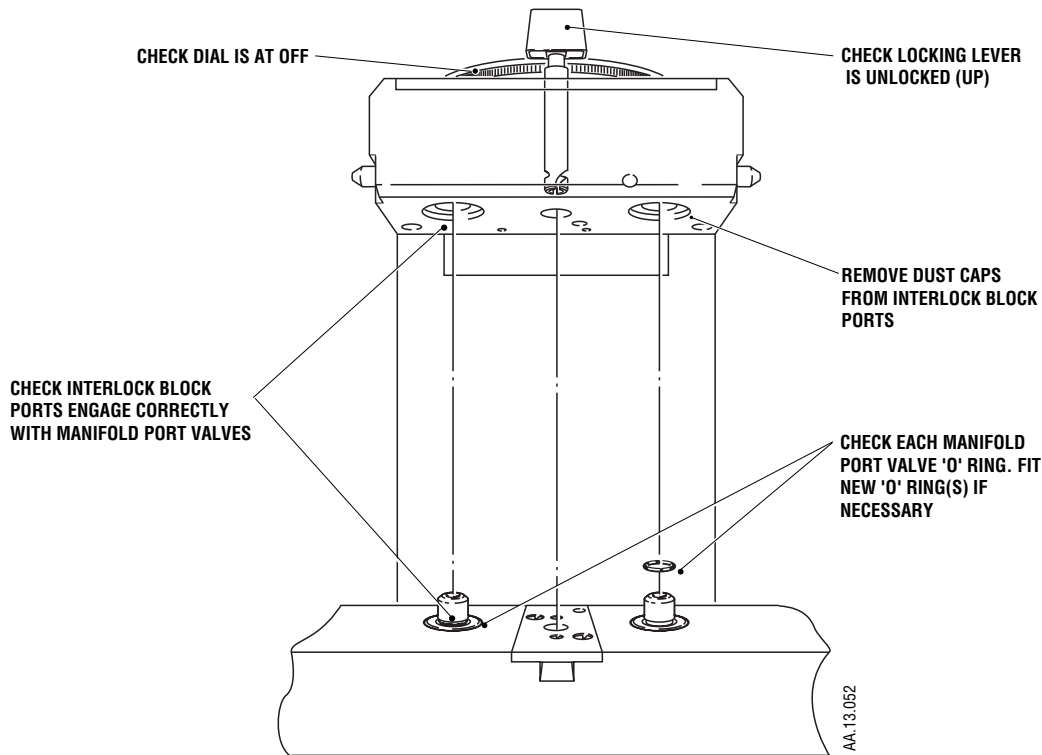

Fig. 2 Vaporizer Mounting Procedure
1. Remove the red coloured dust caps fitted to the vaporizer interlock block ports, illustrated on Fig. 2.